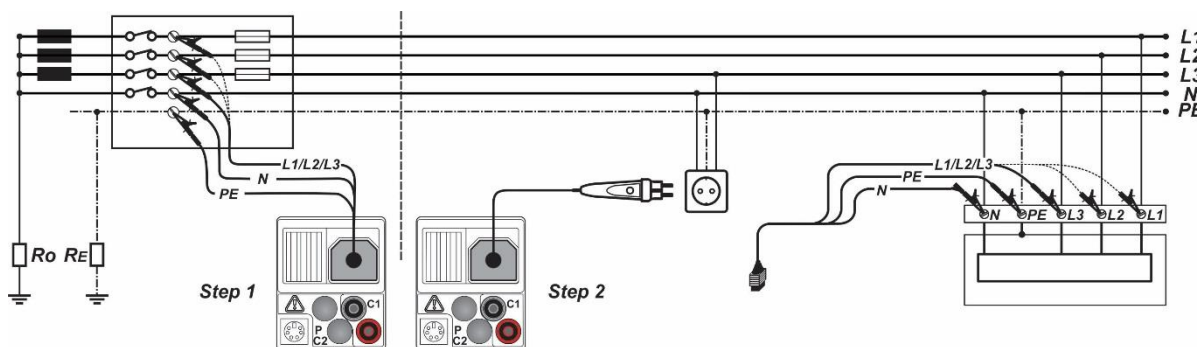

Figure 5.33: Phase-neutral or phase-phase voltage drop measurement – connection of plug commander and 3-wire test lead
- Connect** the test leads to the origin of electrical installation (see Figure 5.33).
- Connect** the test leads to the tested points (see Figure 5.33).